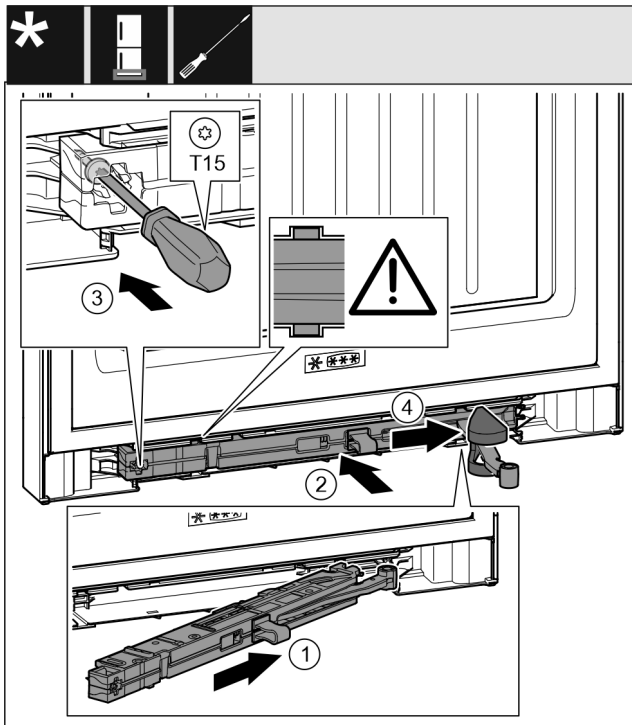

Fig. 43
- ▶ Slide the closing damper unit Fig. 43 (1) on the swap bearing block side up to the stop diagonally into the recess.
- ▶ Push the closing damper unit Fig. 43 (2) completely into the recess.
- ▶ Tighten the screw Fig. 43 (3) with a screwdriver.
- ▶ Push the cover Fig. 43 (4) over the joint.